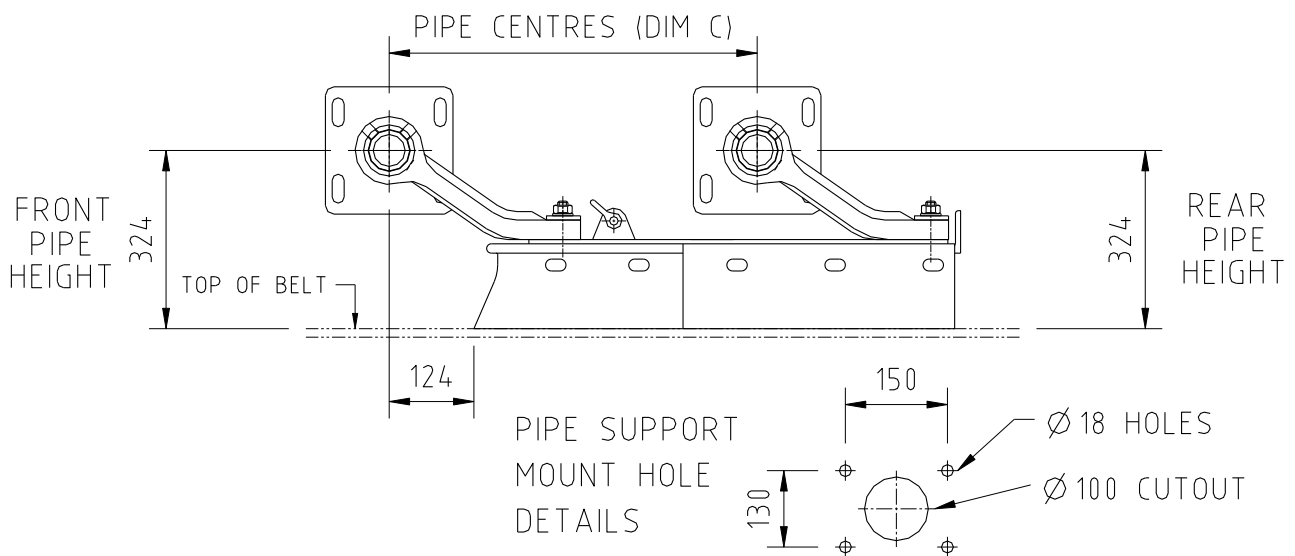

Figure 3
- Step 1** Place the HDRBC without support pipes or tensioning straps on the belt at the selected position. Ensure that the HDRBC frame rear cross member is 90° to the centre line of the belt (see fig3).